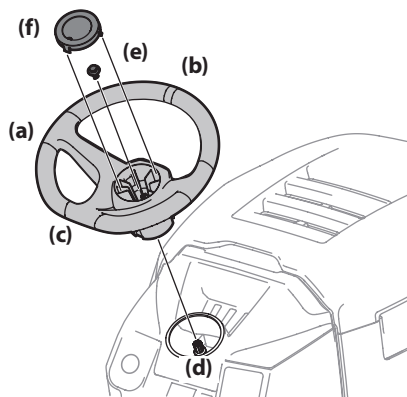

Figure 9
- With the wheels of the tractor pointing straight forward, align the steering wheel (a) by using the center-line (b) on the front of the steering wheel (a) pointing straight ahead and the flat section (c) of the steering wheel (a) facing toward the seat, place the steering wheel (a) over the steering shaft (d). See Figure 9.